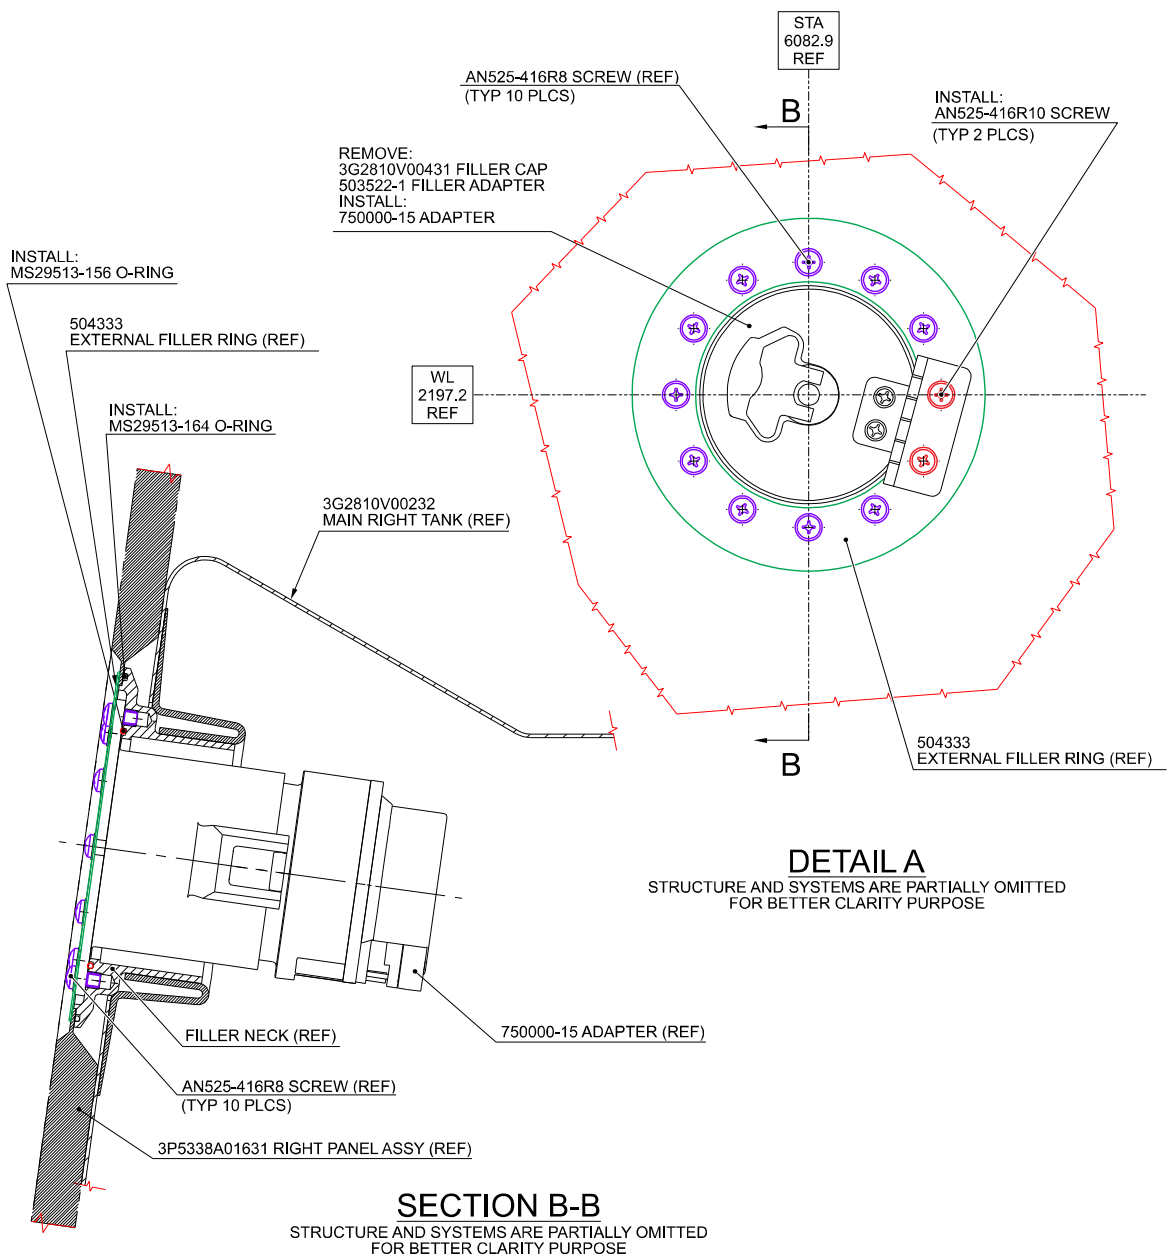

Figure 1
2. With reference to Figure 1, gain access to the area affected by the installation and install the kit closed circuit refuelling receiver P/N 4G2820F00111 as described in the following procedure:
- 2.1 In accordance with AMP DM 39-A-28-11-03-00A-520A-A and with reference to Figure 1 Detail A, remove the filler cap P/N 3G2810V00431.
- 2.2 In accordance with AMP DM 39-A-28-11-04-00A-520A-A and with reference to Figure 1 Detail A, remove the external filler ring P/N 504333 by removing the 12 screws P/N AN525-416R8 that attach the filler neck to the airframe and retain them for later reuse.
- 2.3 In accordance with AMP DM 39-A-28-11-19-00A-520A-A and with reference to Figure 1 Detail A, remove the filler adapter P/N 503522-1.
- 2.4 With reference to Figure 1 Section B-B, lightly push the filler neck to the inner until the O-ring groove is in view and carefully install the O-Ring P/N MS29513-164 in its position.
- 2.5 With reference to Figure 1 Section B-B, keep the filler neck in its position on the structure and install the O-Ring P/N MS29513-156 on the filler neck.
- 2.6 With reference to Figure 1 Detail A and Section B-B, carefully insert the adapter P/N 750000-15 into the filler neck, ensuring that the arrow on the outside of the fuel adapter is facing upward.
- 2.7 With reference to Figure 1 Detail A and Section B-B, fix the external filler ring P/N 504333 to the filler neck by means of n°10 existing screws P/N AN525-416R8.
- 2.8 With reference to Figure 1 Detail A, install the filler cap of the adapter P/N 750000-15 by means of n°2 screws P/N AN525-416R10.
- 2.9 In accordance with AMP DM 39-A-11-00-01-00A-720A-A and with reference to Figure 1 view looking inboard right side, install the stencil P/N A954AD080EN and the stencil P/N A954AP065EN.
- 2.10 In accordance with AMP DM 39-A-11-00-01-00A-720A-A and with reference to Figure 1 view looking inboard right side, install the stencil P/N AW001DSD040EQ and the stencil P/N AW001DSP015EQ.